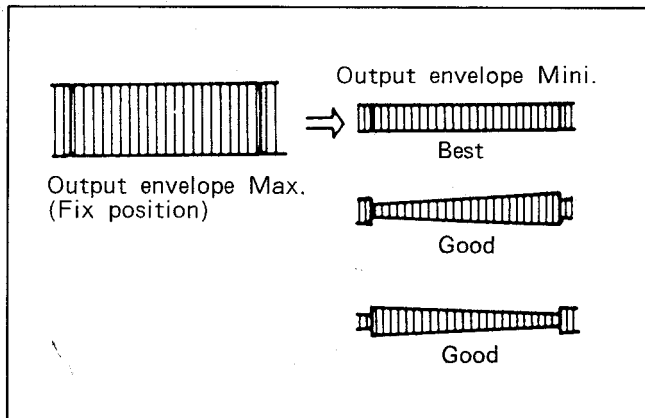

Fig. M10
7. Turn the Tracking VR fully clockwise and counter clockwise. (Keep pressing + button or - button on the Remote Controller) The output envelope should vary nearly parallel with other condition as shown in Fig.M10.